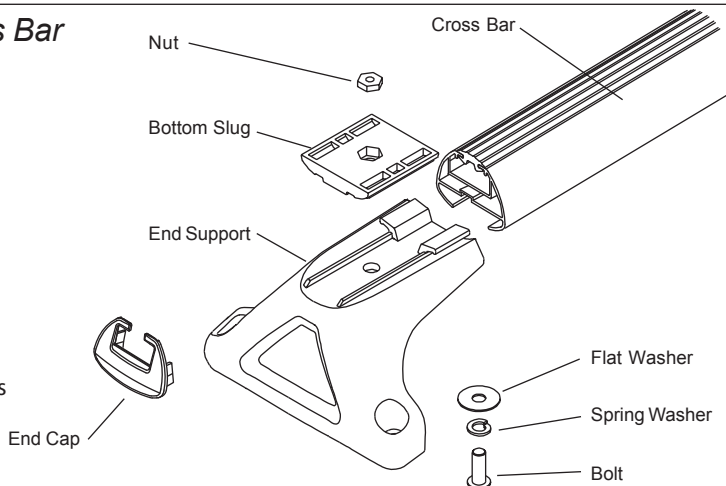

Fig. 2
- Loosely fasten using M8 Bolt, Spring Washer and Flat Washer. Assemble as shown in Fig. 2.